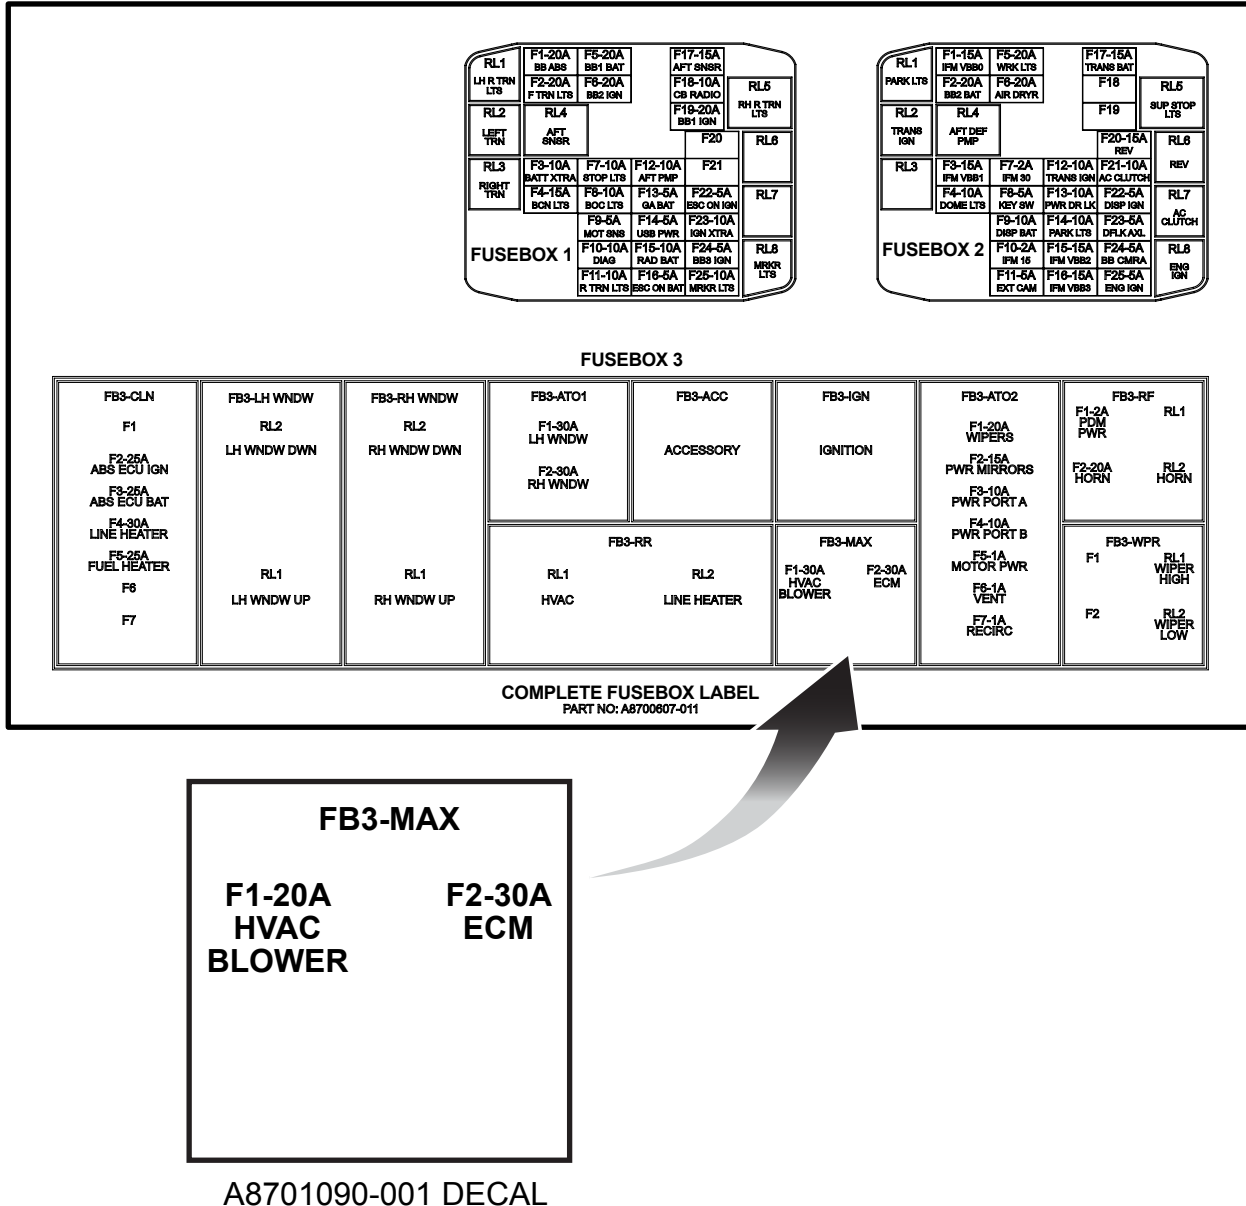

Figure 4
- Install the A8701090-001 decal over the existing fusebox 3 label at the F1-30A FB3-MAX location (see Figure 4).